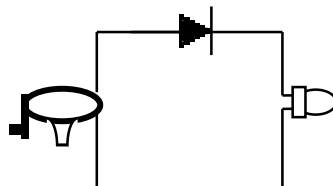
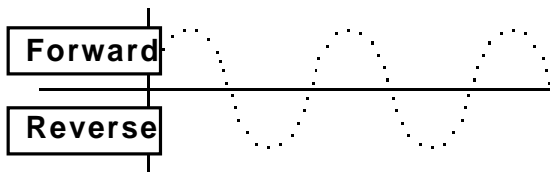

Figure 10.6b
Figure 10.7b
2. Add the diode as shown in Figure 10.6b, and observe the LED as the handle moves in both directions.
1. In Figure 10.7b, sketch over the dotted lines for AC line voltage to describe the voltage across the LED for a rectifier circuit like that shown in Figure 10.6b with one diode and no capacitor.